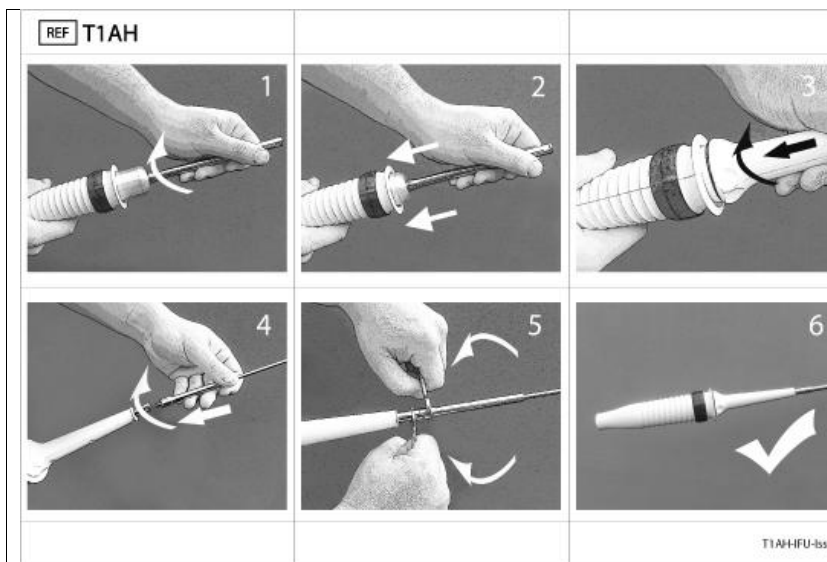

Figure 10 – Assembling Cement Transducer into Axial Grip and fitting Probe
- Fit the Transducer into the Handpiece. Rotate and click into place – ensure that it is securely connected. See (1) & (2) in Figure 10 below.
- Slide the Handpiece **s**leeve over the Transducer horn. Locate the lugs at the base of the sleeve into the grip Handpiece and twist / click into place. See (3) below.
- Using supplied spanners, -attach the Probe to the Transducer (4) & (5) below.